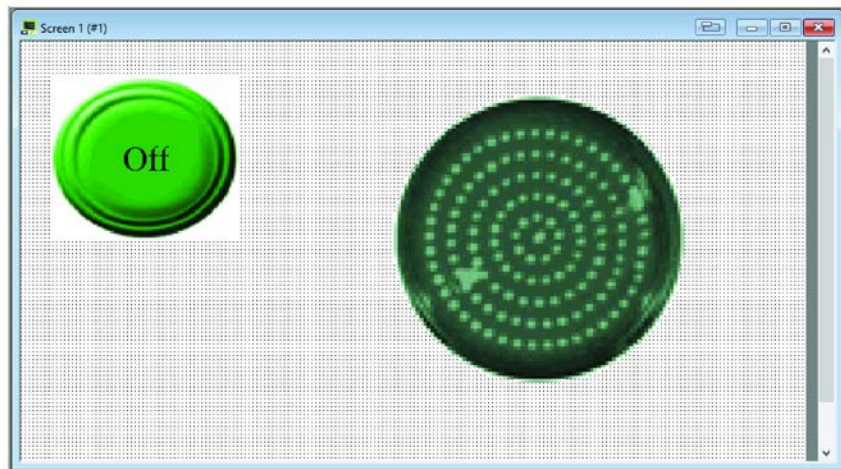

Figure 15
Step 11: Compile program and then download program to the HMI screen. Figure 15 shows the HMI screen when M01 contact is not active: